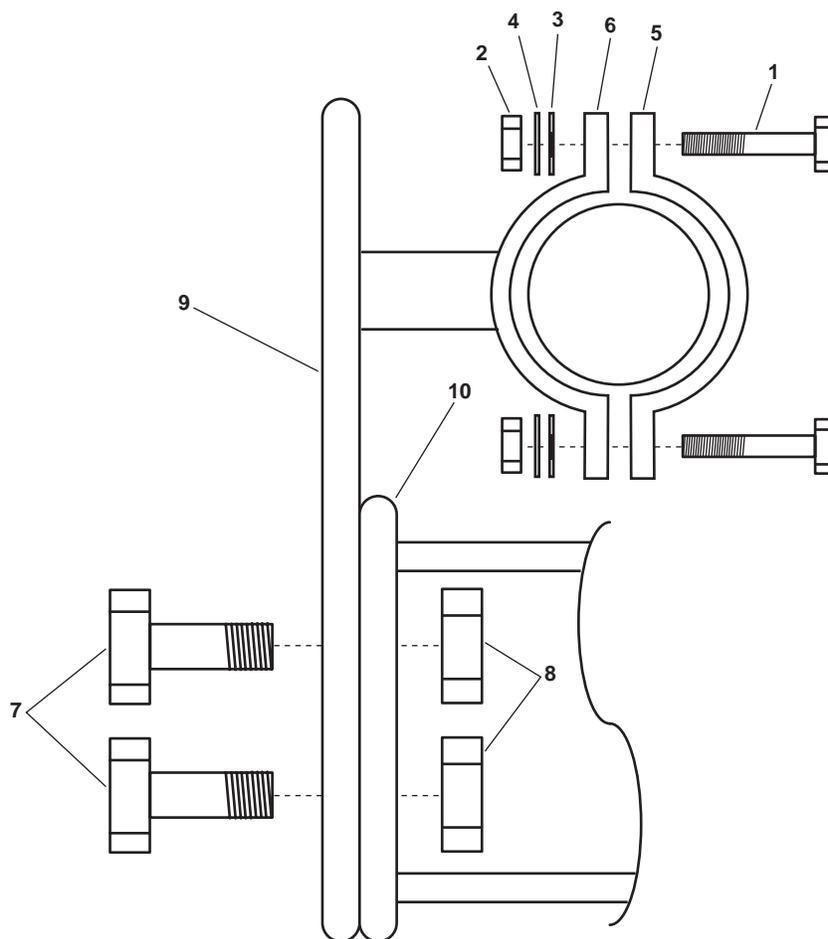

Figure 6. Diverter Solenoid Valve Pipe Hanger
1. Remove the two bolts (figure 6, item 1), two nuts (figure 6, item 2), two flat washers (figure 6, item 3), and two lockwashers securing the removable pipe hanger half (figure 6, item 5) to the stationary pipe hanger half (figure 6, item 6). Remove the removable pipe hanger half and discard the lockwashers.
2. Remove the two bolts (figure 6, item 7) and two nuts (figure 6, item 8) securing the pipe hanger bracket (figure 6, item 9) to its foundation. Remove the pipe hanger bracket.
11. Position the pipe hanger bracket (figure 6, item 9) on its foundation. Install, but do not tighten, the two bolts (figure 6, item 7) and two nuts (figure 6, item 8).
12. Install the removable pipe hanger half (figure 6, item 6) and secure it with the two bolts (figure 6, item 1), two nuts (figure 6, item 2), two flat washers (figure 6, item 3), and two new lockwashers.
13. Tighten the two bolts (figure 6, item 7) and two nuts (figure 6, item 8).